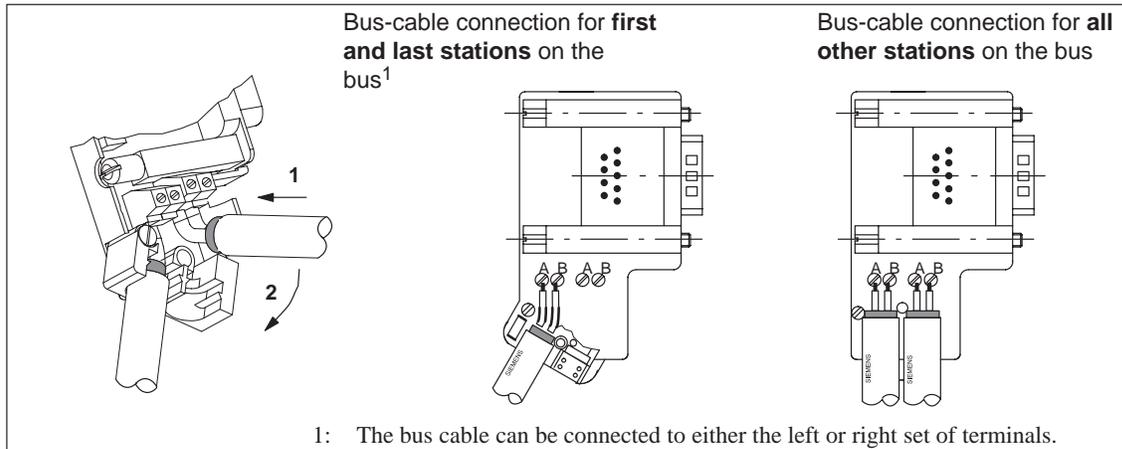

Figure 5-10 Connecting bus cable to bus connector (6ES7 972-0B.20 ...)
6. Insert the bus cable in the latching hinge (Fig. 5-10, step 2).